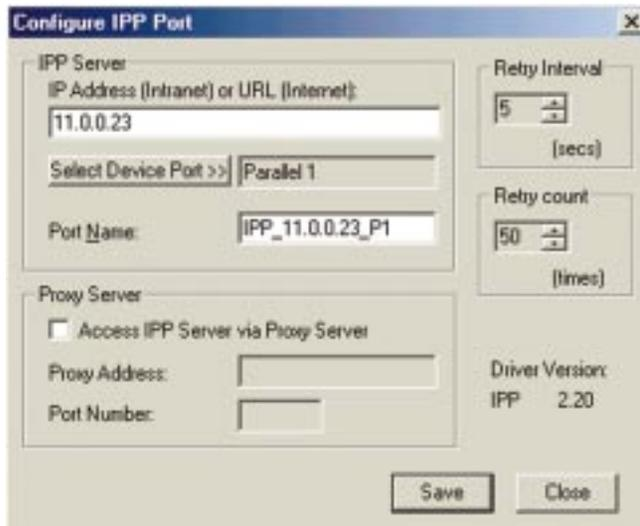

Figure 8-3
- Click the **Port Settings** or **Configure Port** button (Details or Port tab, depending on your version of Windows). The Configure IPP Port screen (shown in Figure 8-3) will appear.